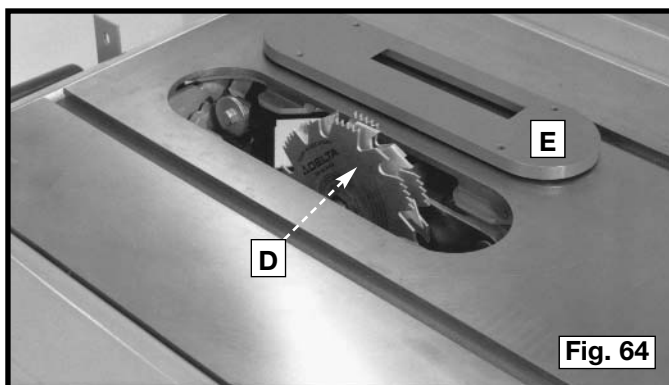

Fig. 64
2. Attach the dado head set (D) Fig. 64, to the saw arbor.
**⚠ CAUTION** The accessory dado head set table insert (E) FIG. 64, must be used in place of the standard table insert.